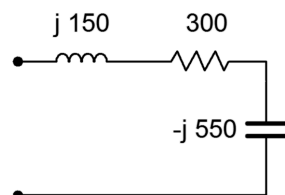

Figure 2.4
7. Determine the impedance of the circuit of Figure 2.4.
8. In the circuit of Figure 2.4, if the input frequency is 100 Hz, what is the value of the inductor, in mH?
9. In the circuit of Figure 2.4, if the input frequency is 200 Hz, what is the value of the capacitor, in μF ?